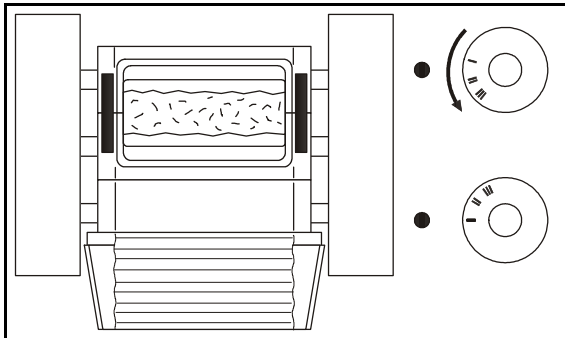

Fig. 15: Roller gap decrease
15. Decrease the rear roller gap as indicated by the arrow (Fig. 15) until the product flow on the front rollers is the same width as the plastic guides.